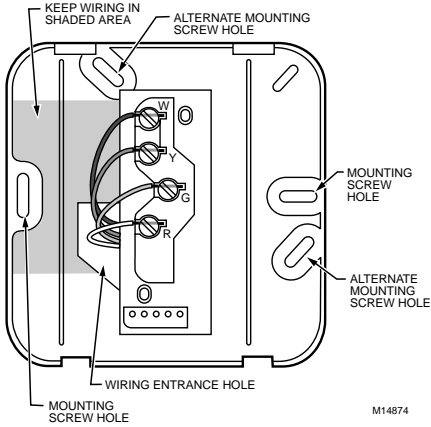

Fig. 6. CT500 wallplate wiring connections.
- Match the letter of your old thermostat wire with the terminal of the corresponding letter on your new thermostat. See Fig. 6.